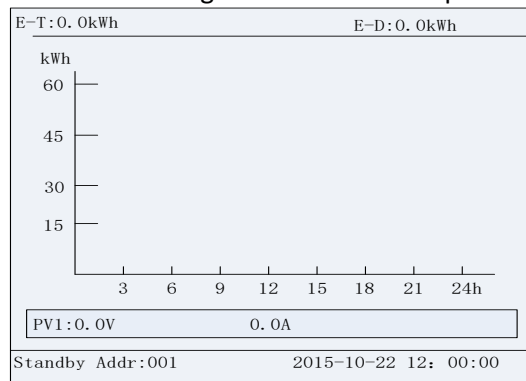

Figure 5-5 Normal Operation Status
- When the LCD screen shows the normal operation status Figure 5-5 and the “RUN” light on the LED panel is illuminated, this is an indication that the grid connection and power generation were successful.